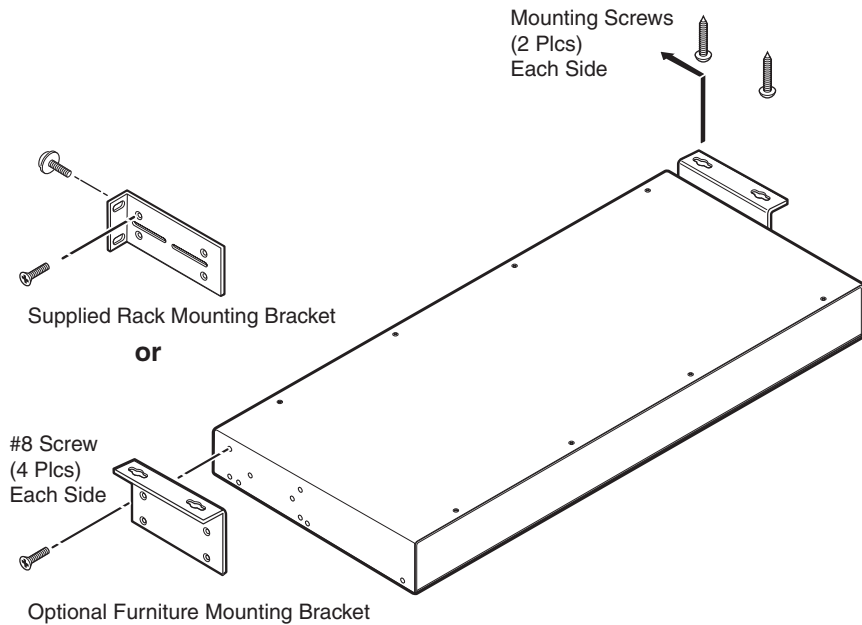
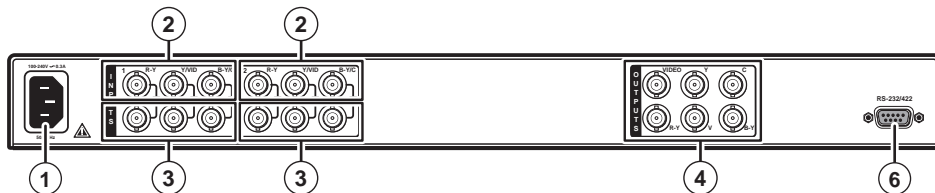

Figure 2-1 — Mounting a PIP
Figure 2-3 — PIP 422 rear panel
The following Underwriters Laboratories (UL) requirements pertain to the installation of the PIP into a rack (figure 2-1) or furniture (figure 2-3).
2. Attach the supplied rack mounting brackets to the processor with the eight provided #8 machine screws (figure 2-1).
2. Attach the table/wall mounting brackets to the processor with the eight provided #8 machine screws (figure 2-1).
2. Attach the supplied mounting brackets to the processor with the machine screws provided (figure 2-1).